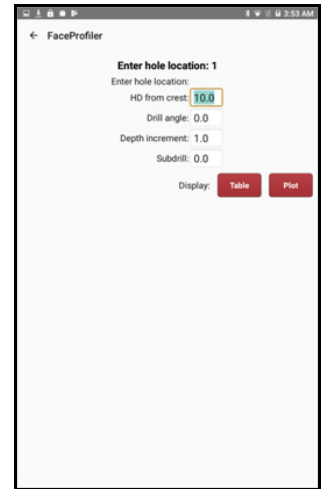

Figure 36
About Enter Hole Offset Parameters (Figure 36):
2. Tap the [Shoot Hole Location] option (Figure 39B). Face Profiler will display an entry screen for the drill hole parameters similar to Figure 36, Page 28.